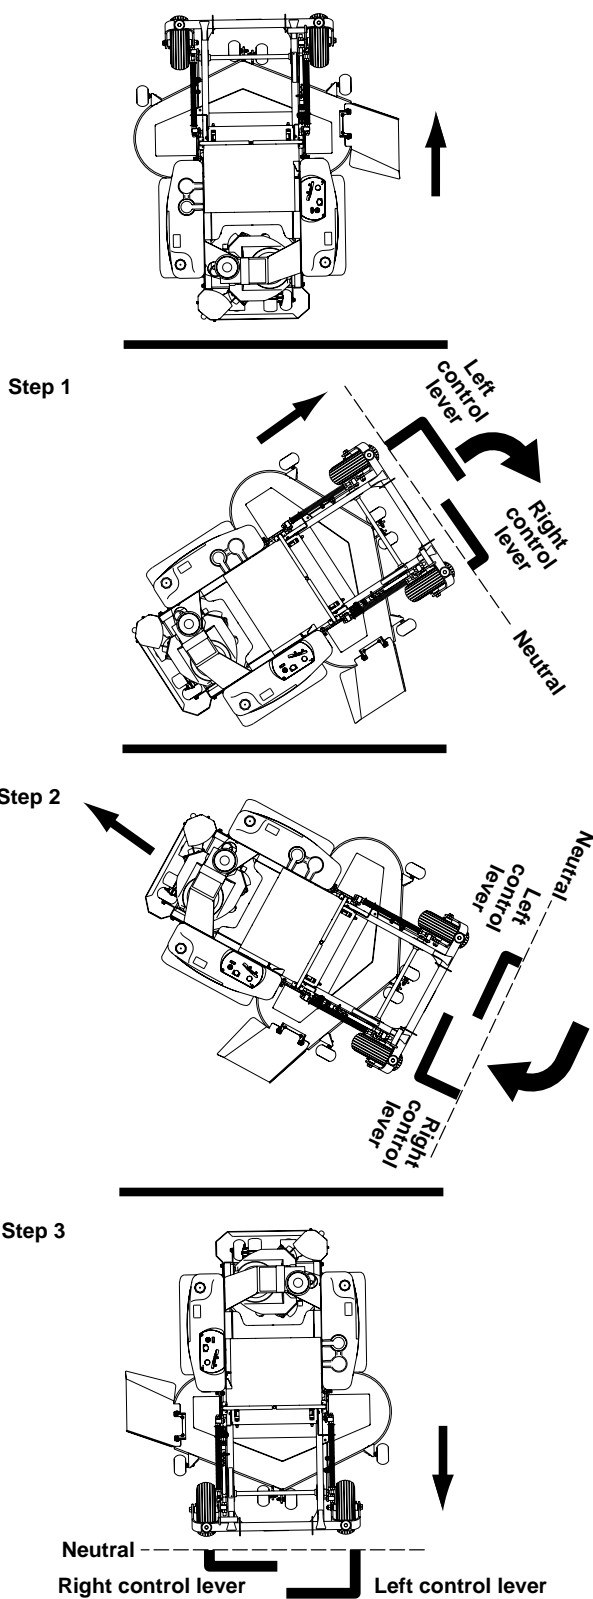

Figure 3-11
**To make a three point turn to the right**, move the left steering control lever farther forward from neutral than the right steering control lever and start the turn. Next, pull back on the steering control levers until they are past neutral and the machine starts to go rearward. Pull the right steering control lever farther rearward from neutral than the left steering control lever until the rear of the machine has pivoted around. Then, push the steering control levers forward until they are both past neutral and the machine starts to go forward. Push the left steering control lever farther forward from neutral than the right steering control lever and finish the turn. (Figure 3-11)